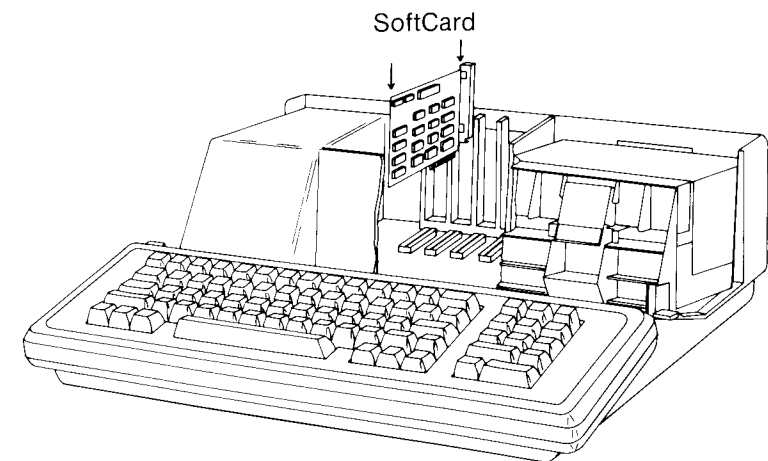

Figure 4
9. Align the Apple SoftCard III circuit board in slot 2 (the component side should face the right side of the chassis) so that the card edge-connector faces the back of the chassis and the front of the card is in the rear guide slot. Ensure that the metal bracket on the Apple SoftCard III circuit board is in the rear guide slot. Use Figure 4 as a guide.